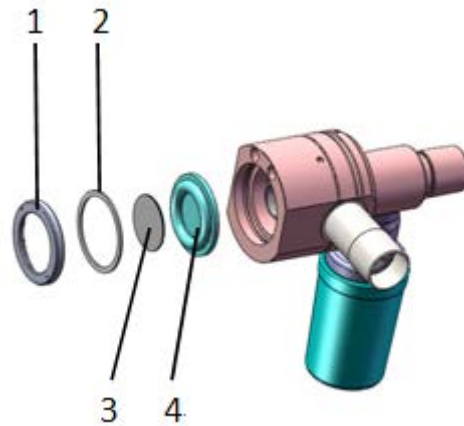

Figure 8-9
- h. Remove the safety valve cover (1 in Figure 8-9) and the gasket (2 in Figure 8-9);
- i. Remove the scale board (3 in Figure 8-9) and the diaphragm (4 in Figure 8-9);